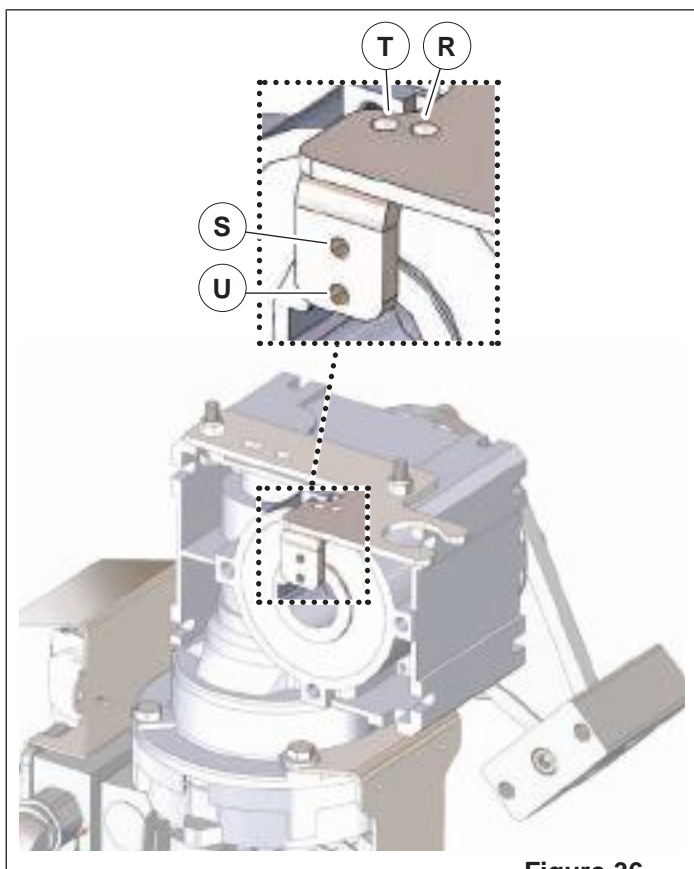

Figure 36
Use the rear top hole (R) and top side hole (S) (Figure 36).